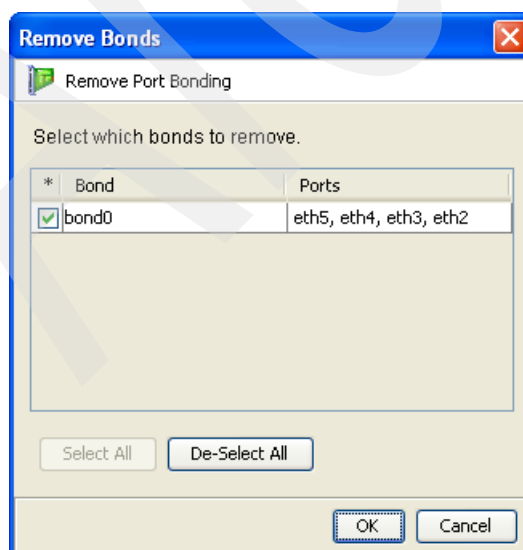

Figure 12-3 Remove port bonding window
2. From the panel shown in Figure 12-3, select the previous bond name from the list. In the lab we selected bond0. As previously mentioned, we have one 4-port Ethernet adapter. Click **OK**.